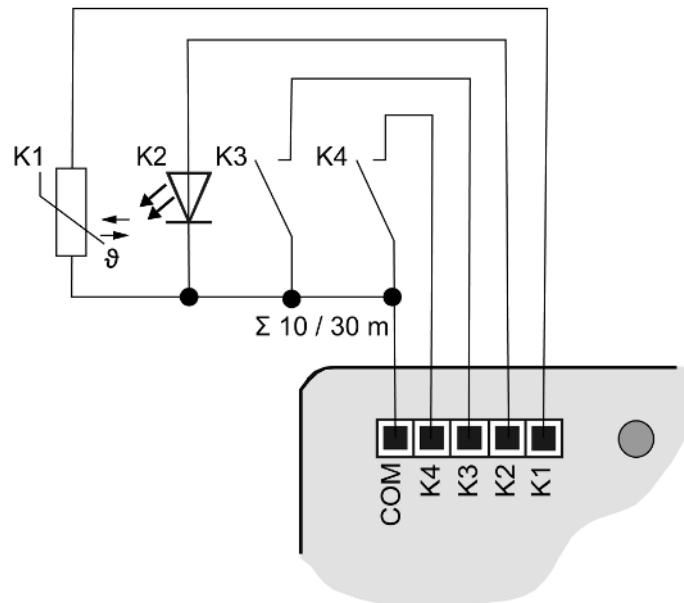
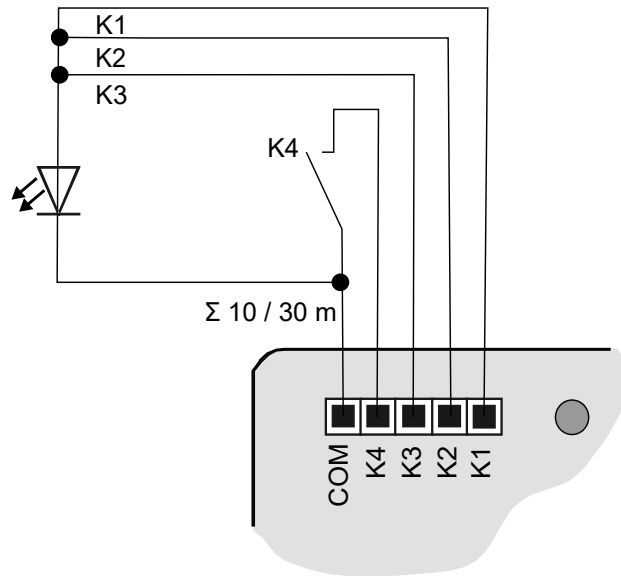

Figure 7: Connection example
Figure 8: Connection example with outputs switched in parallel
- Optional (only "Comfort" variant) (see chapter "Accessories" ▶ Page 26): Push-buttons, switches, contacts. Connect LEDs or NTCs as shown in the connection examples using the enclosed connection cables. The connection examples (and (see figure 8)) show how to use them with inputs, outputs and sensors.
- Connect push-buttons, switches, contacts, LEDs or NTCs as shown in the connection examples using the enclosed connection cables ((see figure 7) and (see figure 8)). The connection examples show the use with inputs, outputs and sensors.
It is possible to switch outputs in parallel, for loads with high energy consumption. (see figure 8) and **K1-K3** are switched in parallel in this example.